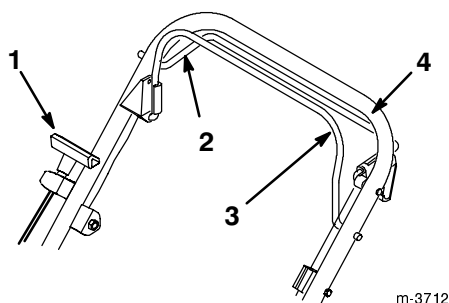

Figure 9
The starter handle, the self-propel drive bail, and the blade control bail are on the upper handle as shown in Figure 9.
3. Hold the blade control bail against the upper handle (Fig. 9).
4. Pull the starter handle lightly until you feel resistance, then pull it sharply (Fig. 9). Allow the rope to return to the handle slowly.